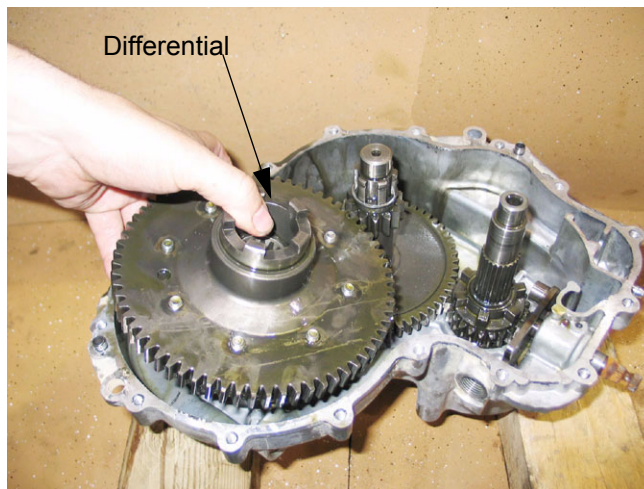

Figure 9.43
9.43. The differential can be easily lifted out of the transaxle as an assembly, at this point. See Figure 9.43.